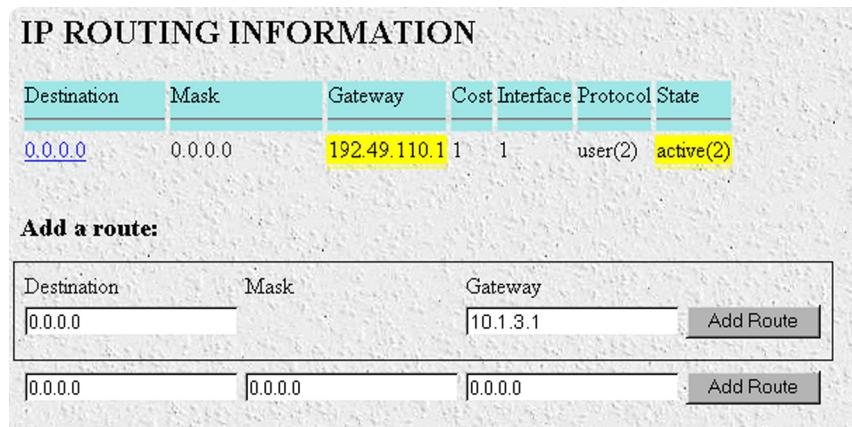

Figure 31. IP Routing Information window
1. Select IP on the Configuration Menu, then click on Routing Info...(see figure 31).